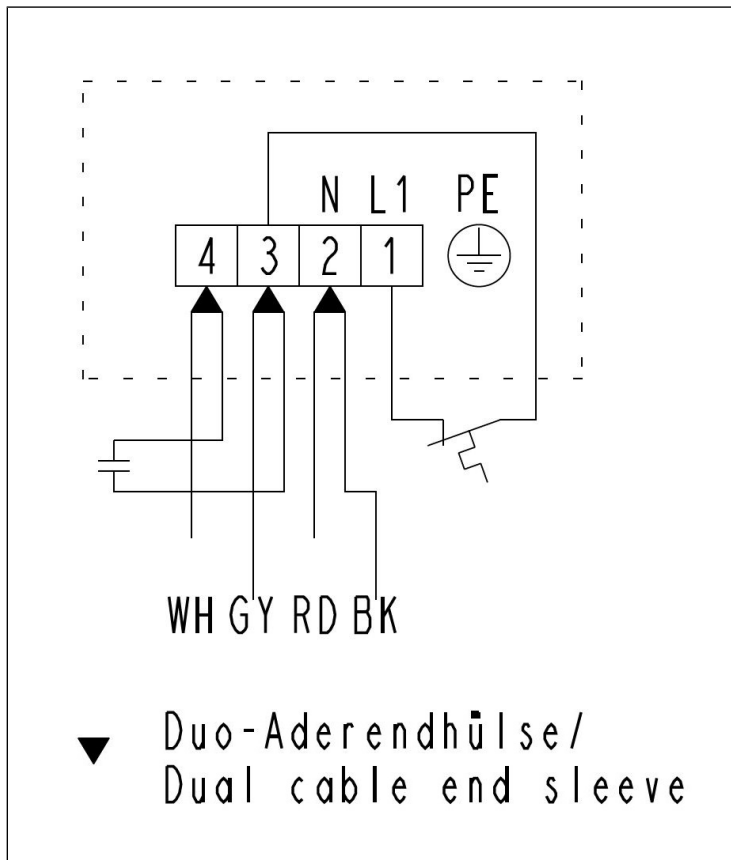

Fig.10: Electrical connection of .16 version
4. Connect the power cable to the L 1 and N connections of the terminal blocks (see Fig. 10).